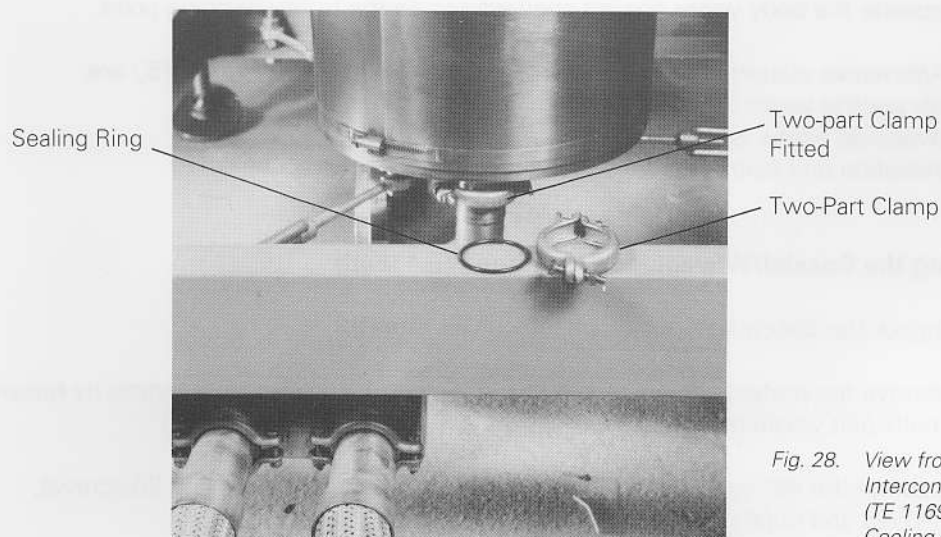

Fig. 28. View from Left Showing Fitting of Interconnecting Water Hoses (TE 1169) to Collector Water-Cooling Jacket (TE 1170)
- (b) Connect the free ends of the two interconnecting water hoses (TE 1169) to the collector water-cooling jacket (TE 1170) as follows (Fig. 28):